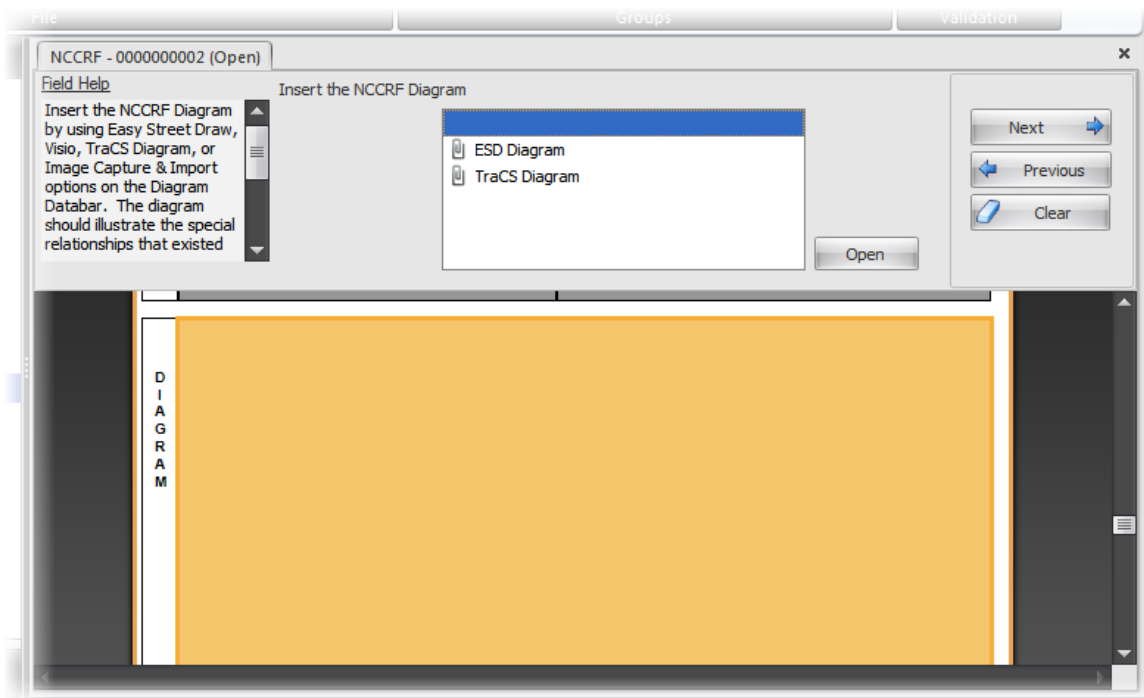

Figure 49. Chose Diagram Tool
1. Go to the Diagram group on the form (Figure 49) and select **ESD Diagram** or **TraCS Diagram** and click **Open**. The launch window opens.